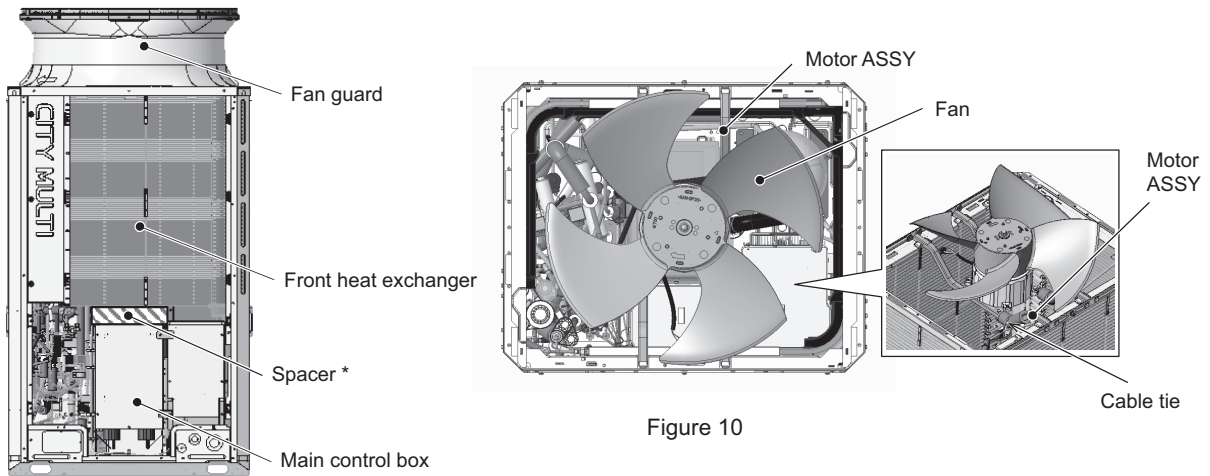

Figure 9
- (10) Remove the fan guard by unscrewing the 6 screws. (See Figure 9.)
- (11) Insert a spacer between the main control box and the heat exchanger.
- (12) Remove the cable tie that is holding the motor ASSY and the unit wiring.